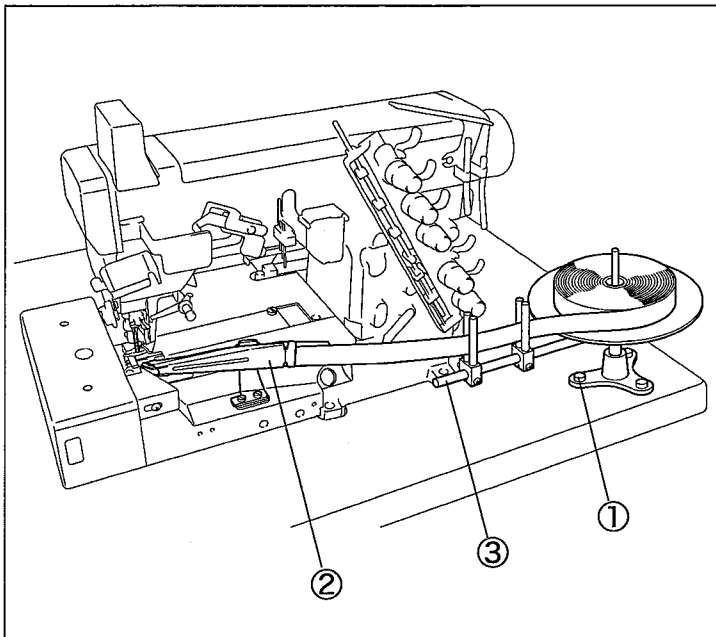

Fig. 20
- (2) Fix the tape stand on the machine table with the wood screws ① (Fig. 20).
- (3) Adjust the direction of the tape guide bar ③ to feed a tape into the folder ② smoothly.